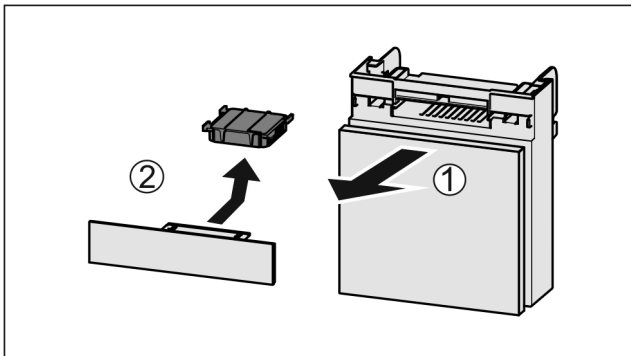

Fig. 74
- Pull out the compartment Fig. 74 (1).
- Remove the carbon filter Fig. 74 (2).